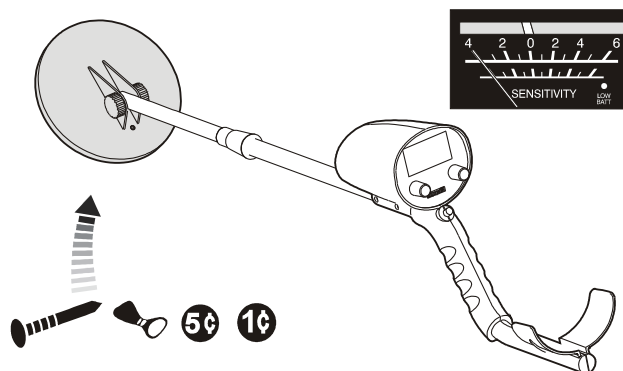

Figure.14
- Let other metal samples approach the search coil slowly, the meter pointer will deflect to the left, and the sound will turn light. (Figure.14)